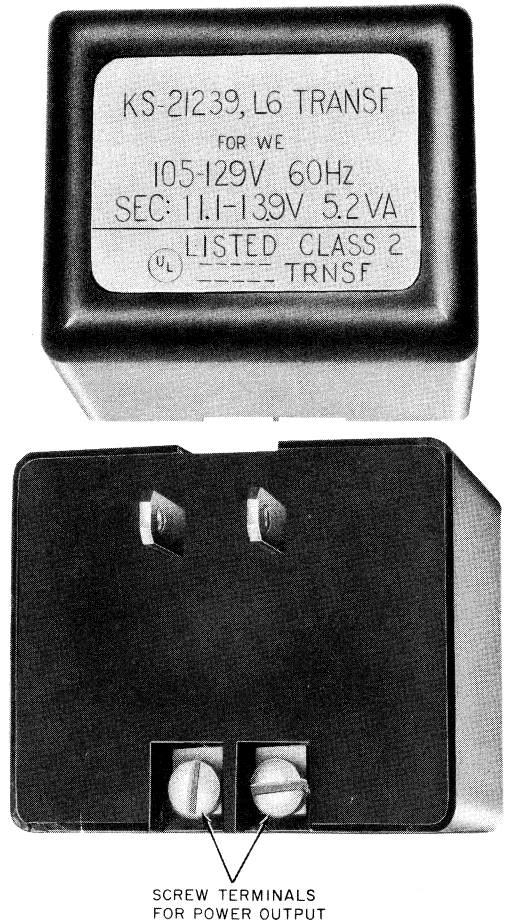

Fig. 18—KS-21239L6 Transformer
11.01 The KS-21239L6 transformer (Fig. 18) is used to furnish power for the 24A-type line status indicator.
blades which serve as the mounting means. Recessed screw-type secondary terminals are provided on the same side of the transformer as the primary terminals. Refer to Fig. 18 for electrical specifications.